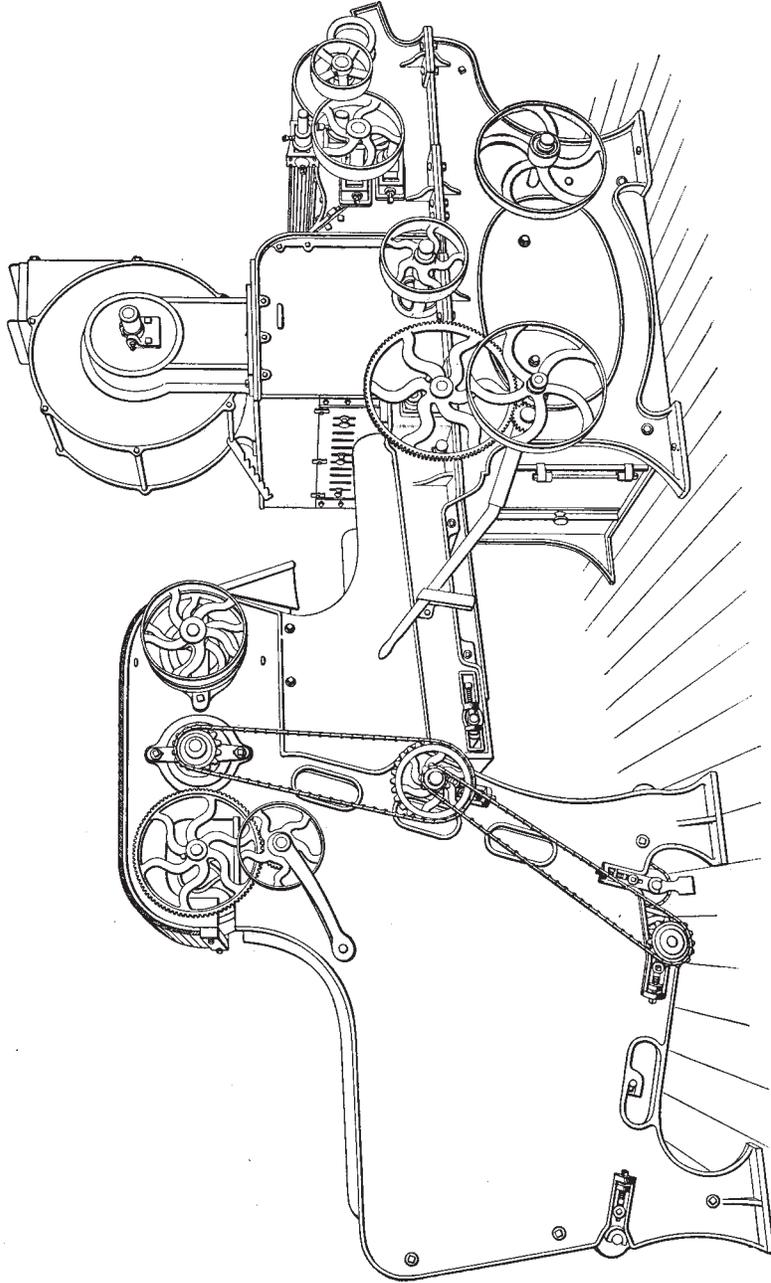

FIG. 6
**17.** In Fig. 6, a burr picker known as the **Sargent multiplex burr picker** is shown with a self-feed attached. This machine works on practically the same principle as the Parkhurst picker. The wool is opened by a picking cylinder and is deposited on a pair of burr cylinders covered with
The self-feed shown attached to the burr picker illustrated in Fig. 6 is known as the **Sargent low feed**. This self-feed is adapted for burr pickers, cone and carbonizing dusters, mixing pickers, or any similar machine.